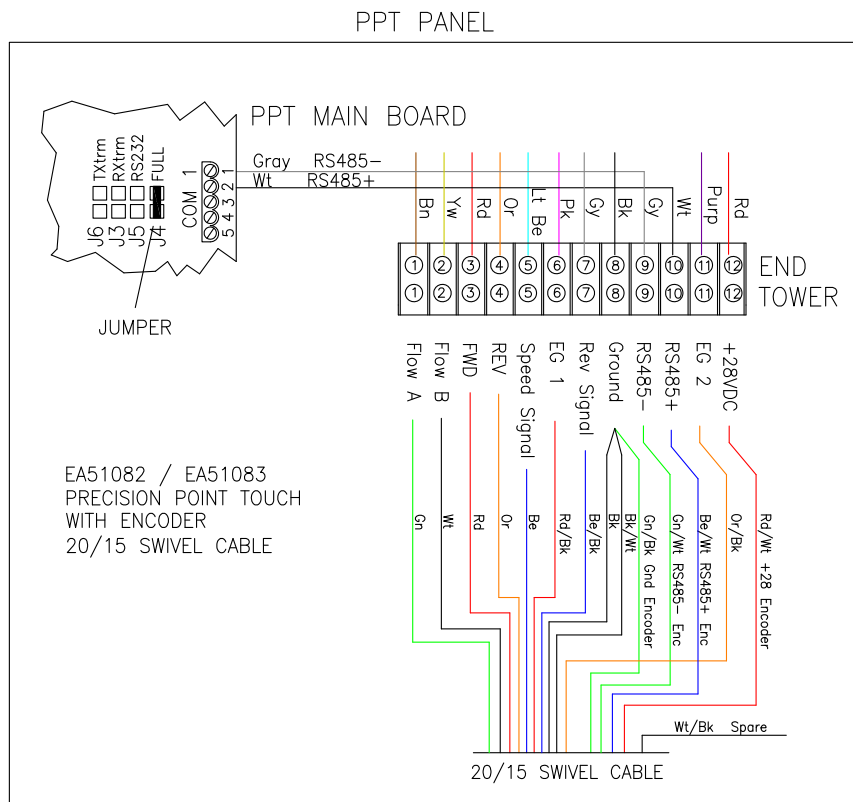

Figure 208. Wiring of Precision Point Touch Panel to 20/15 Gray Swivel Cable with Encoder.
11.4 Wiring PPT Panel – Swivel Cable with Encoder 20/15 Cable (Figure 208)